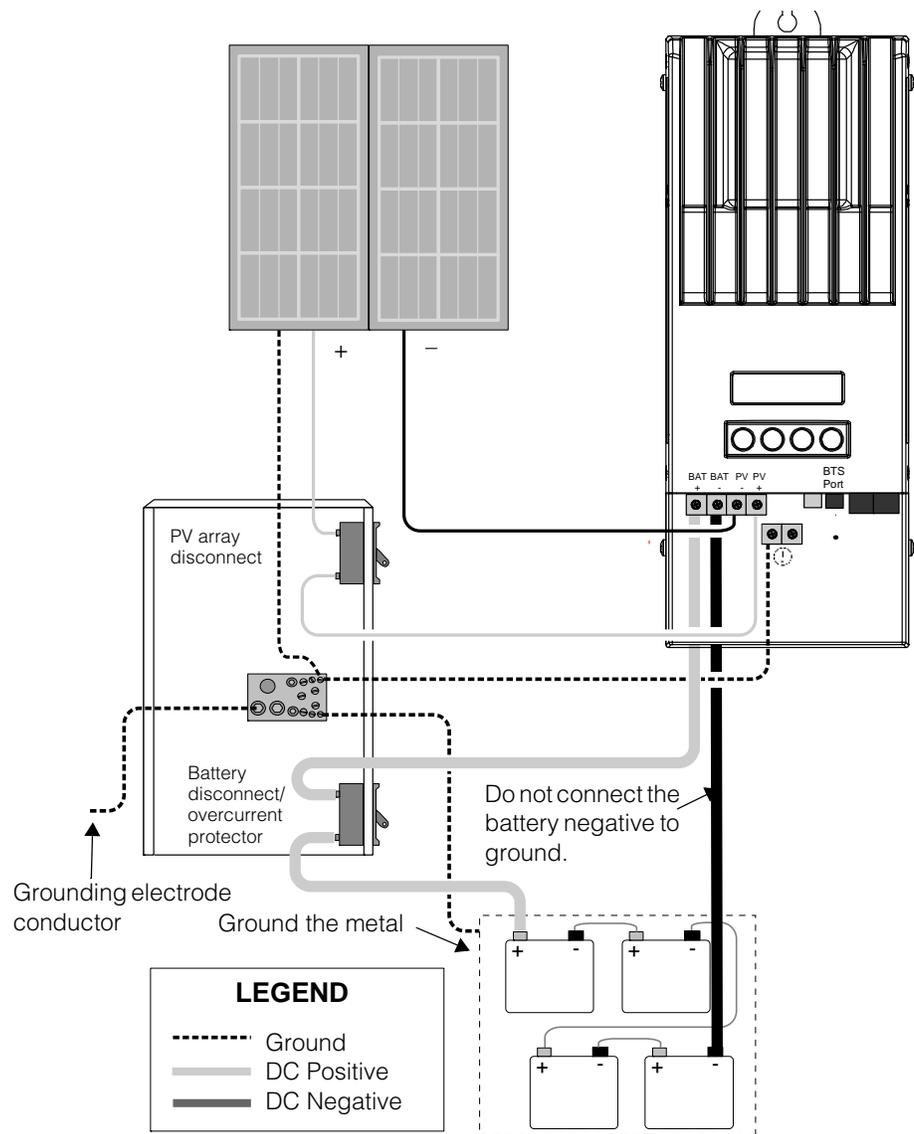

Figure 2-10 Charge Controller Power Wiring
The following procedure is illustrated in Figure 2-10.
Do not connect the battery negative to ground. Bonding the battery negative to ground disables the unit's internal PV ground-fault protection. For more information, see "Grounding" on page 2-9. See Figure 2-10 for correct routing of the battery negative.
2. Ground the charge controller. Connect a grounding conductor between an charge controller ground lug and the system ground (as shown in Figure 2-10).